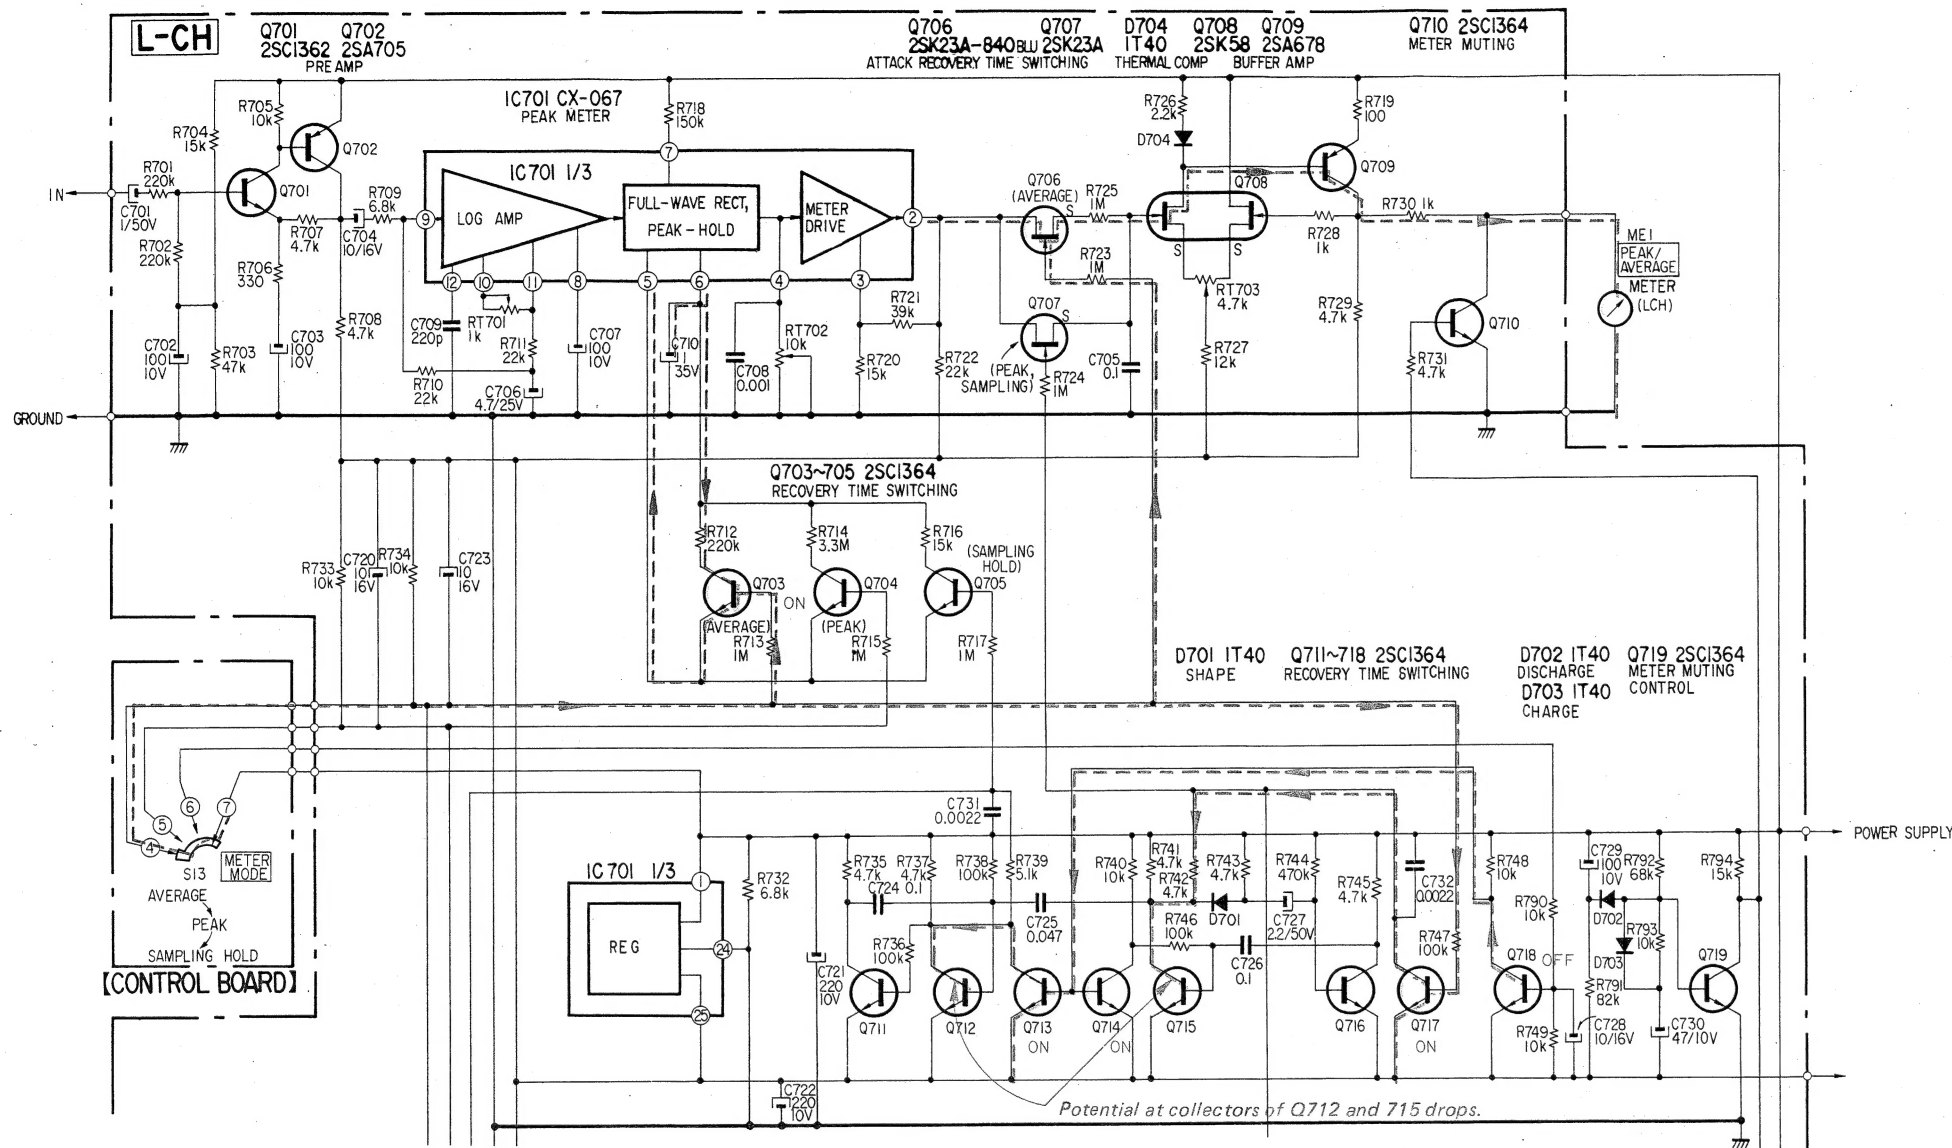
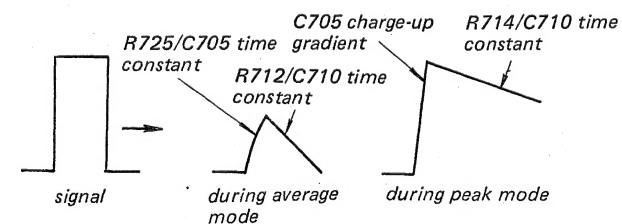
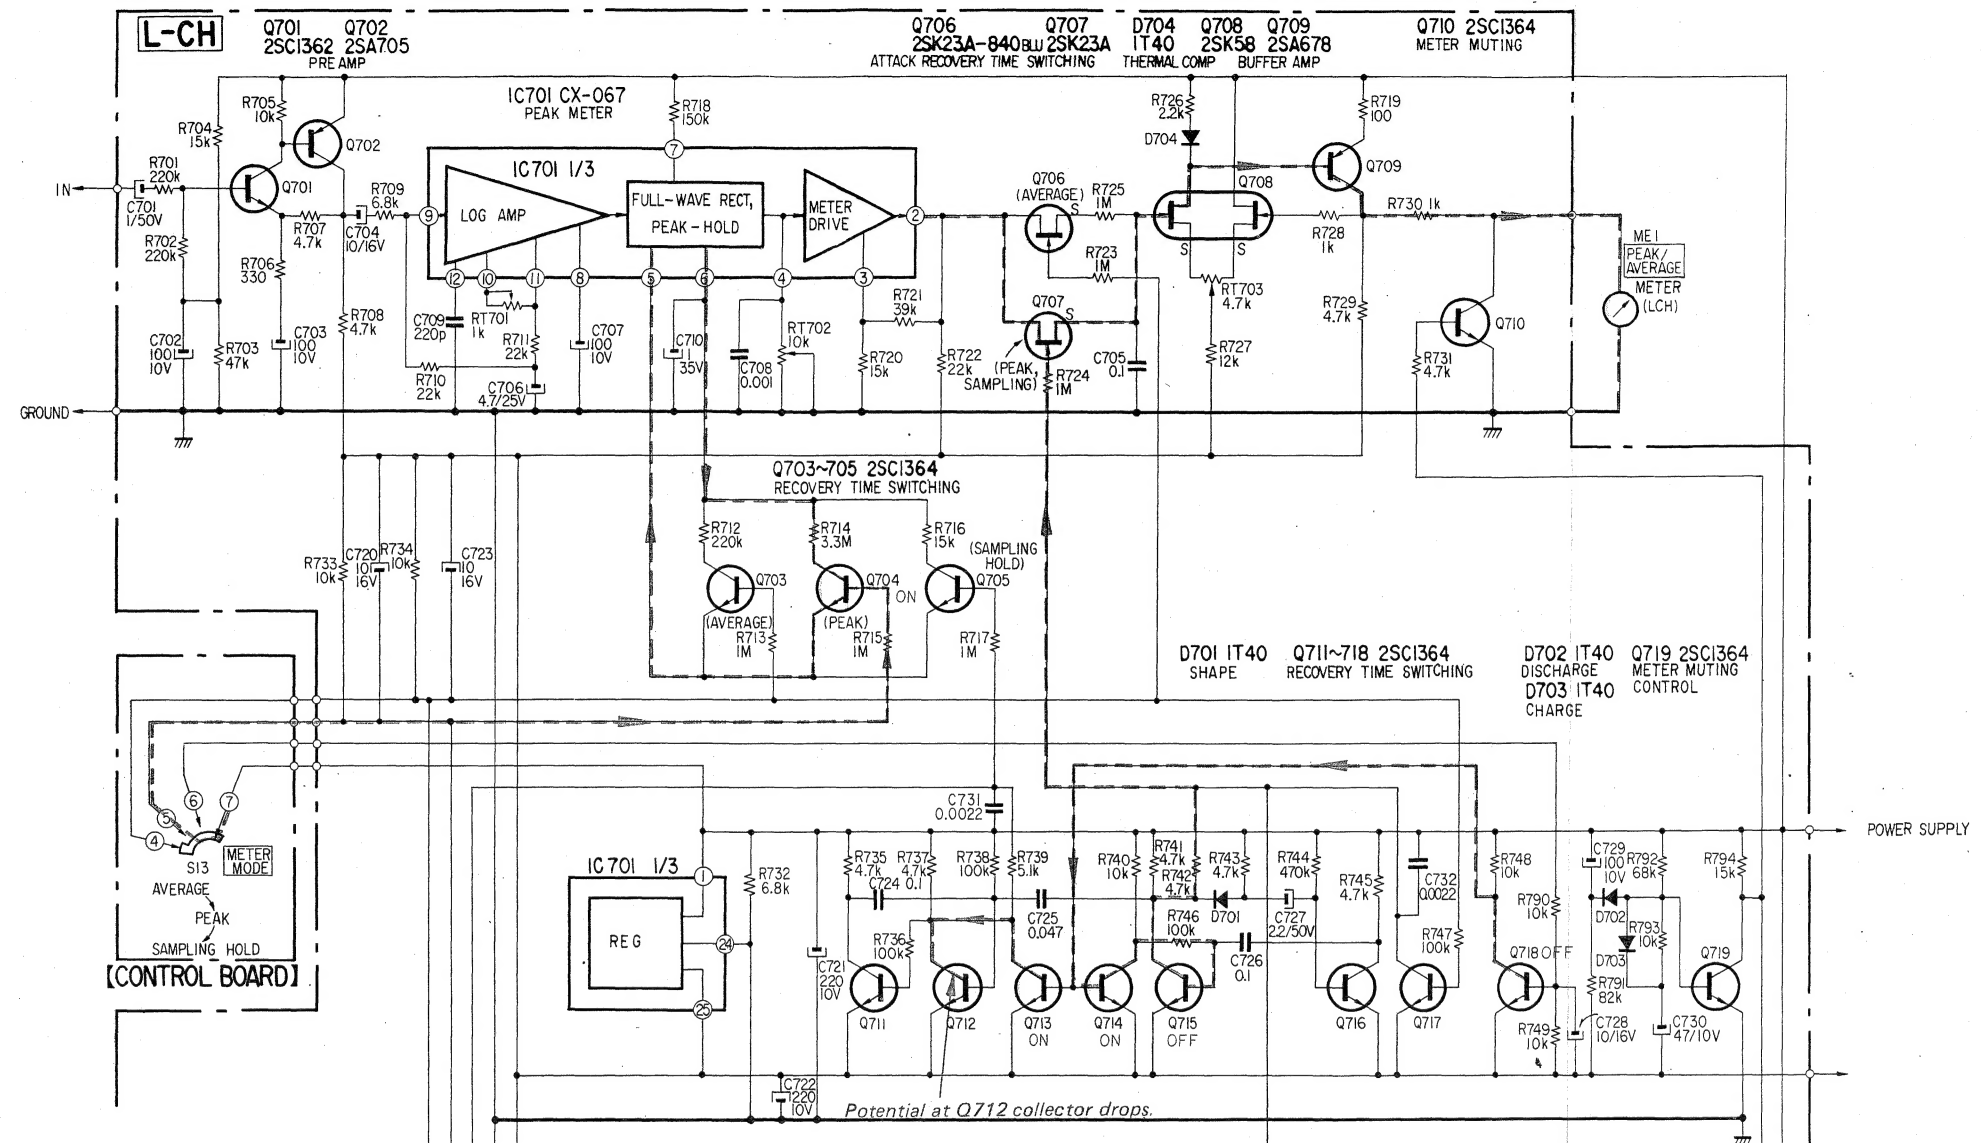

Fig. 1
Fig. 3
Fig. 4
#### 1. Preamplifier Circuit (Fig. 1)
#### 2. IC701 (CX-067) and It's Surrounding Circuits (Fig. 1)
- \* During peak mode, Q704 is turned on (see Fig. 4), and C710 discharges through R714 (3.3 M $\Omega$ ) taking approximately five times longer than during average mode (see Fig. 3).
- \* During average mode, Q703 is turned on (see Fig. 1), and C710 discharges relatively rapidly through R712 (220 k $\Omega$ ) (see Fig. 3).
- \* During average mode, Q706 is turned on (Fig. 1) and current passed through R725, charges C705. Charge-up time is thus determined by the C705/R725 time constant. (Fig. 3).
- \* During peak mode, Q707 is turned on (Fig. 4), but since there is no resistor connected in series, C705 will charge up immediately (Fig. 3).